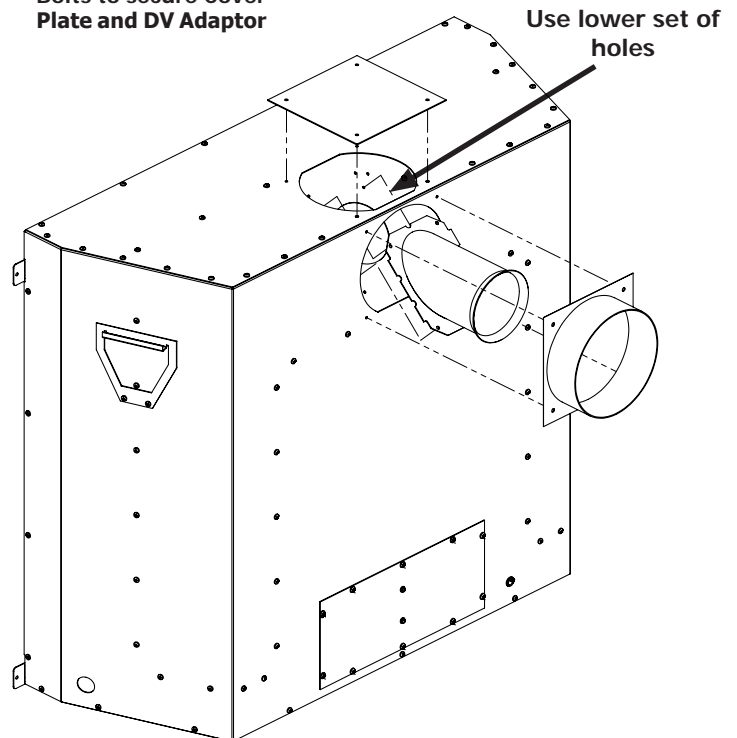

Figure 26. Vent Conversion - Step 2
Step 2: Switch the removed parts around as shown in Figure 26 and re-install all 12 screws. Be sure not to damage any gaskets - If damage occurs fully remove the gasket and use high temp silicone as a replacement.